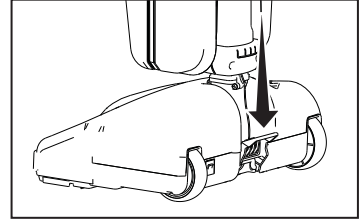

Fig. 1
- Press the handle release pedal located on the back of the vacuum with your foot to recline the handle (Fig. 1).